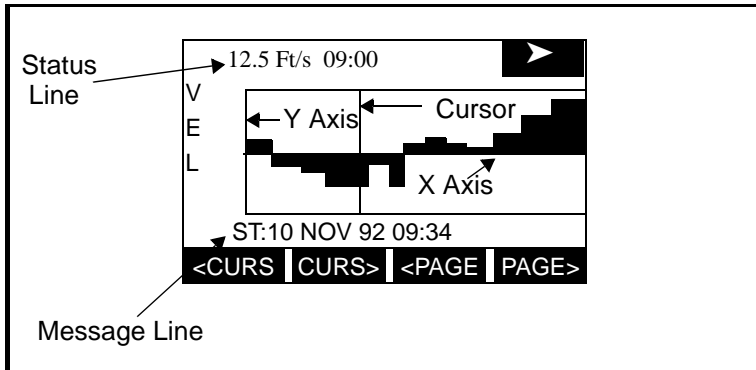

Figure 4-7: Log Graph Format
Figure 4-7 below shows an example of a bi-directional log graph. The Y axis represents the measurement value; the X axis represents time.
To view measurement values, use the [**<CURS**] and [**CURS>**] feature keys to move the cursor left and right within the current page. When you move the cursor, the Status Line (see Figure 4-7 above) displays the measurement value, units, and the time the measurement was taken. To move quickly, use the [**<PAGE**] and [**PAGE>**] feature keys to move from one page to the next.
- **START** — This feature key automatically moves the cursor to the beginning of the page. In addition, the TransPort displays the start date and time of that page on the message line (see Figure 4-7).